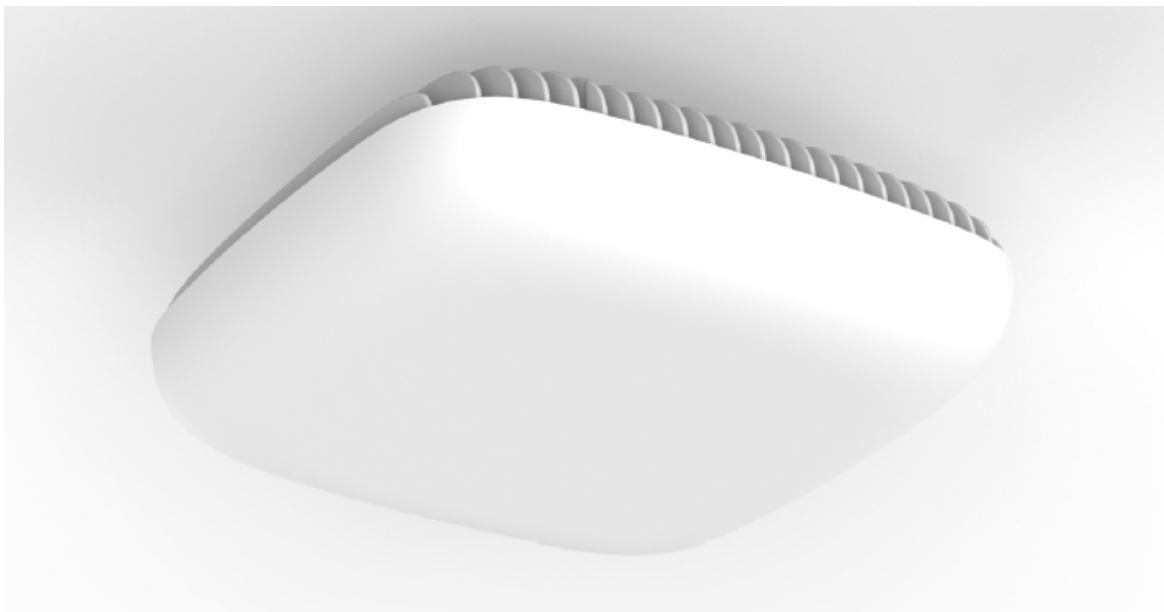
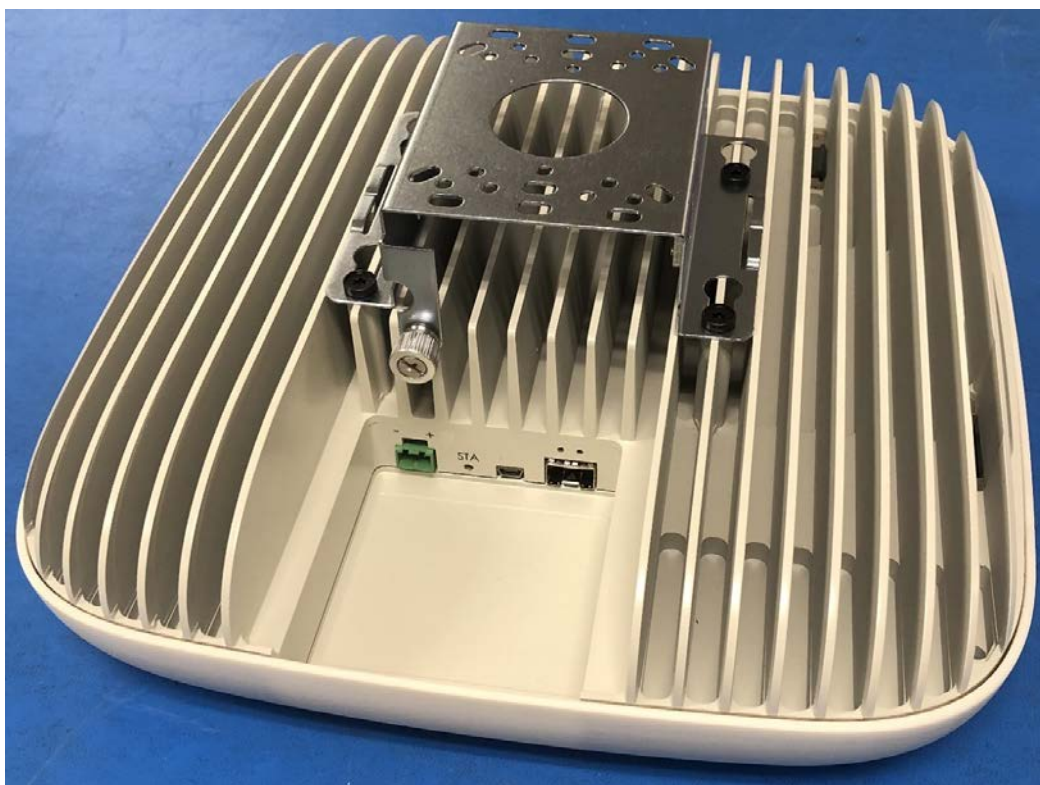
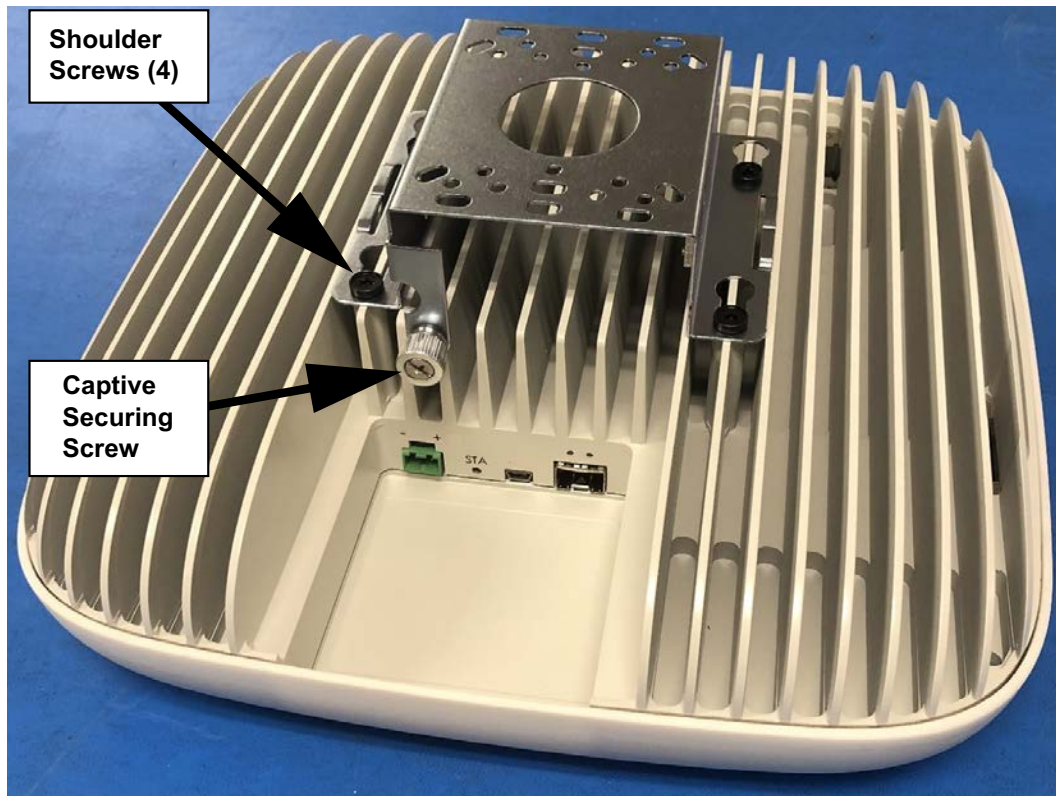

Figure 2 SCRN-530 Cover
Figure 3 SCRN-530 With Ceiling-Mount Bracket
Figure 6 Ceiling-Mount Bracket Screw Locations
Figure 2 and Figure 3 display views of the SCRN-530.
As shown in Figure 3, the SCRN-530 comes with the ceiling-mount bracket attached. This bracket is held to the radio node mounting side with four shoulder screws and a captive securing screw, and is non-tilting. The shoulder screws should not need to be adjusted but if they do, loosen them slightly to be able to slide the ceiling-mount bracket on and off of the radio node when the captive securing screw has been loosened. Figure 6 shows the captive securing screw and four security screw locations.
- When mounting the radio node vertically, orient the bracket so that the bracket keyholes have the wide side up as shown in Figure 3.